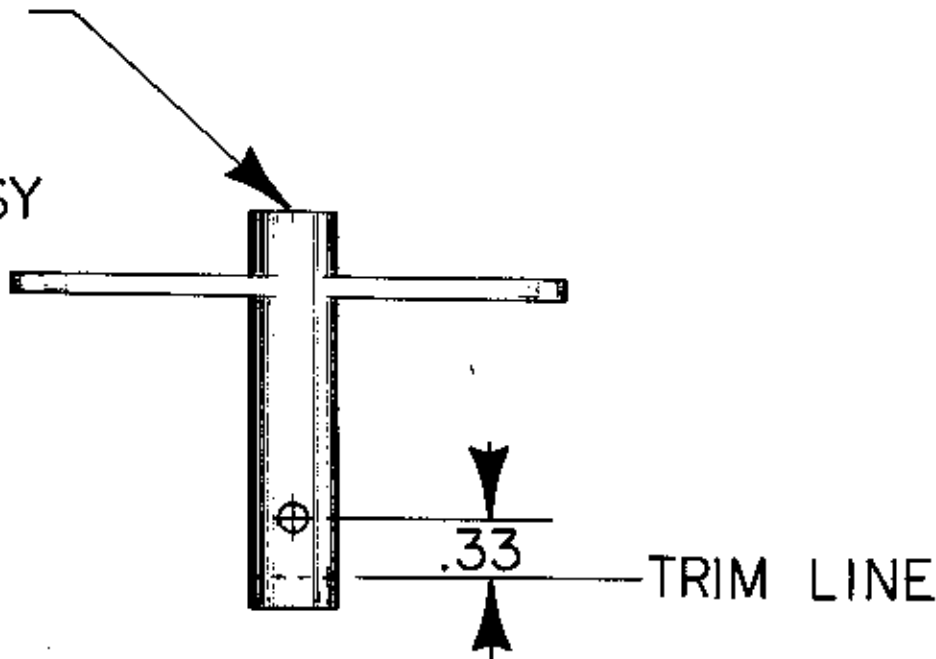

FIGURE 1
2. Trim handle shaft $.30 + .030$ from center of roll pin hole. See Figure 1.